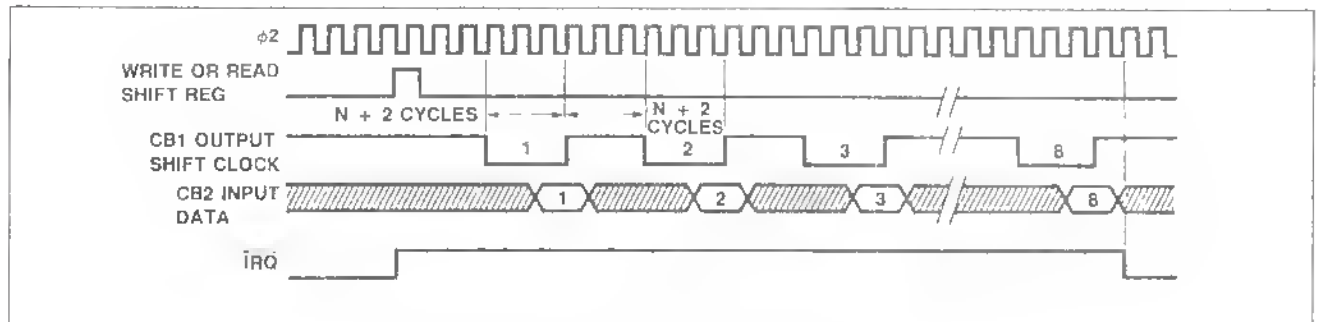

Figure 22. SR Mode 1 — Shift In Under T2 Control
In mode 1, the shifting rate is controlled by the low order 8 bits of T2 (Figure 22). Shift pulses are generated on the CB1 pin to control shifting in external devices. The time between transitions of this output clock is a function of the system clock period and the contents of the low order T2 latch (N).